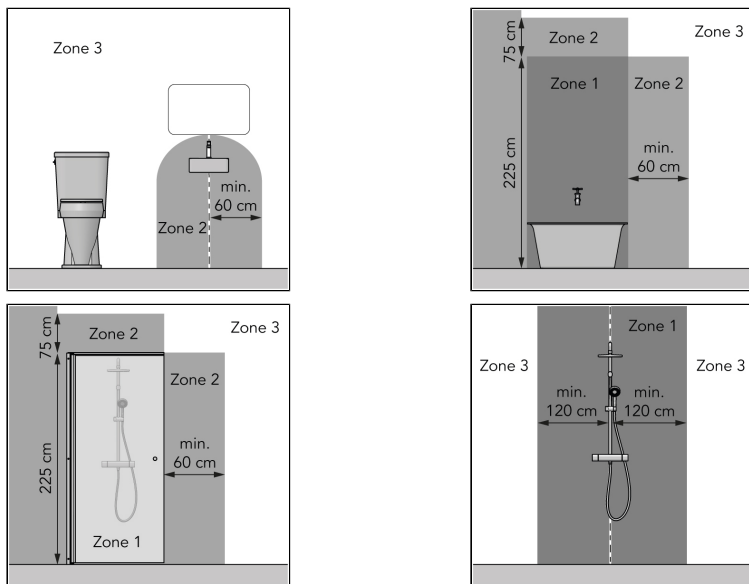

Figure 18.
- in zone 3 of a toilet room or bathroom with a bath, shower with screen or shower without screen, see Figure 18;
The Alutherm Sani Verre Wi-Fi is an easy-to-use electric bathroom heater for use only in zone 3 of the bathroom (Figure 18). The device can be programmed on a day and a week timer. The Alutherm Sani Verre Wi-Fi can be used with the Eurom Smart app. This device is exclusively for heating domestic living spaces and may not be used for any other purposes. The device is suitable for wall-mounting only.